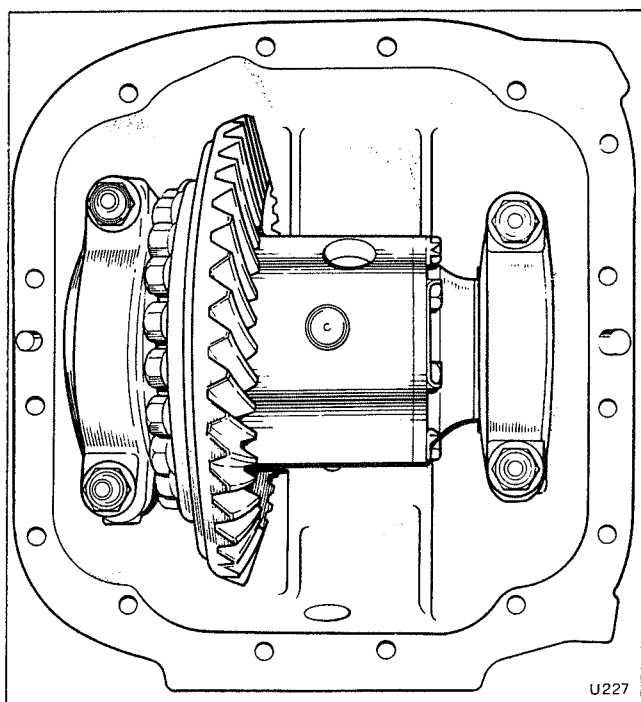

Fig. J4m Differential and crown wheel in position
4. Remove the nuts and washers from the bearing caps on each side of the crown wheel and differential assembly (see Fig. J4m).